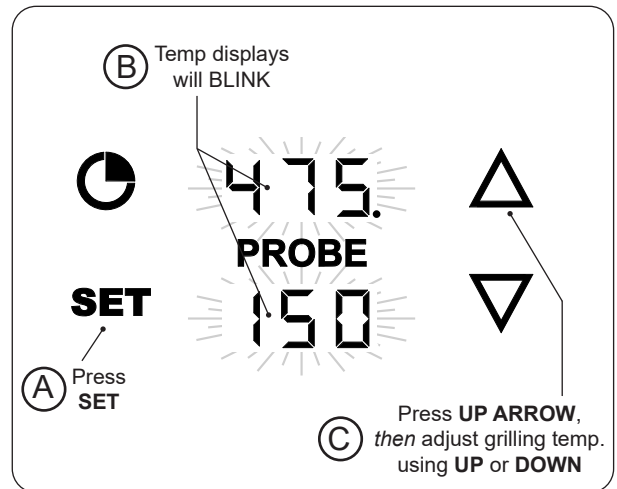

Fig. 39-1 Set grilling temp.
1. With the thermometer/thermostat **on**, press the **SET** button once. The grilling and probe displays will blink. (While blinking, either area can be selected to enter their settings.) See Fig. 39-1, A and B.
2. Press the **UP ARROW** to select the grilling temp settings, then use the up or down arrows to set the desired temp. (Fig. 39-1, C).